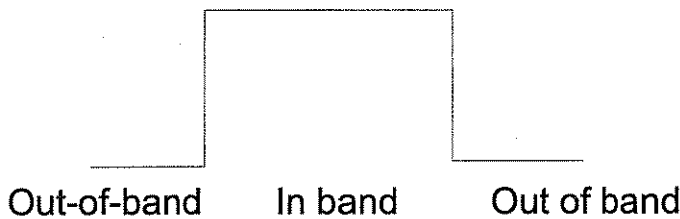

Figure 5-1. Example of In- and Out-of Bandwidth Signals
- Measurement channel bandwidth (in band, Figure 5-1)
- Measurement channel bandwidth (out of band, Figure 5-1)
Refer to Figure 5-1 while performing the following procedure.